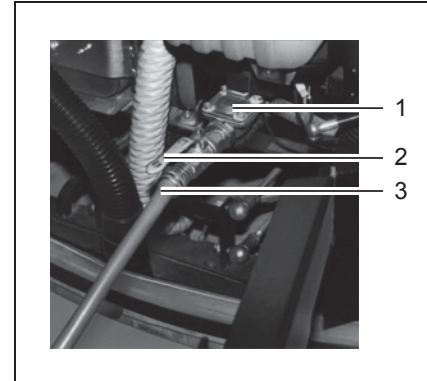

Fig. 31
2. Connect a filling hose (Fig. 31/3) with a connection diameter of 19 mm (3/4 inch).
3. Open the ball cock (Fig. 31/2).
4. Press the button for the solenoid valve (Fig. 31/1). This is located under the suction turbine.
The button for the solenoid valve (Fig. 31/1) can also be actuated when the key switch is switched off.
7. Close the ball cock (Fig. 31/2).
8. Disconnect the filling hose (Fig. 31/3).